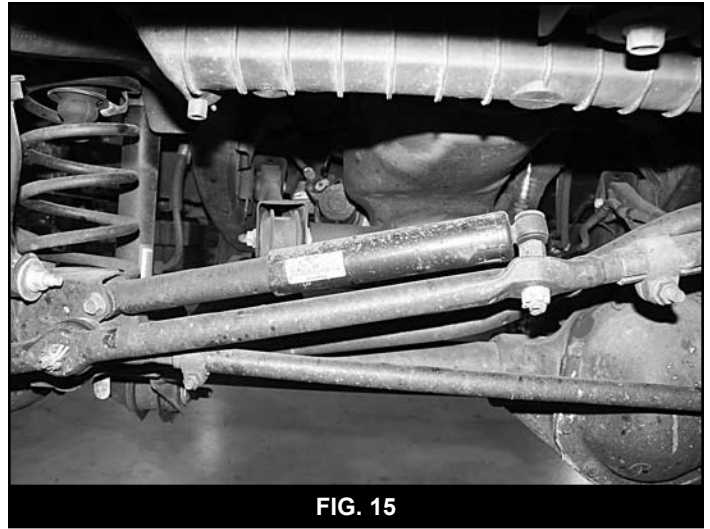

FIG. 15
35. Disconnect the steering stabilizer from the axle and retain hardware. Remove the steering stabilizer from the drag link by removing the nut and dislodging the tapered stud with a pickle fork (Fig 15).